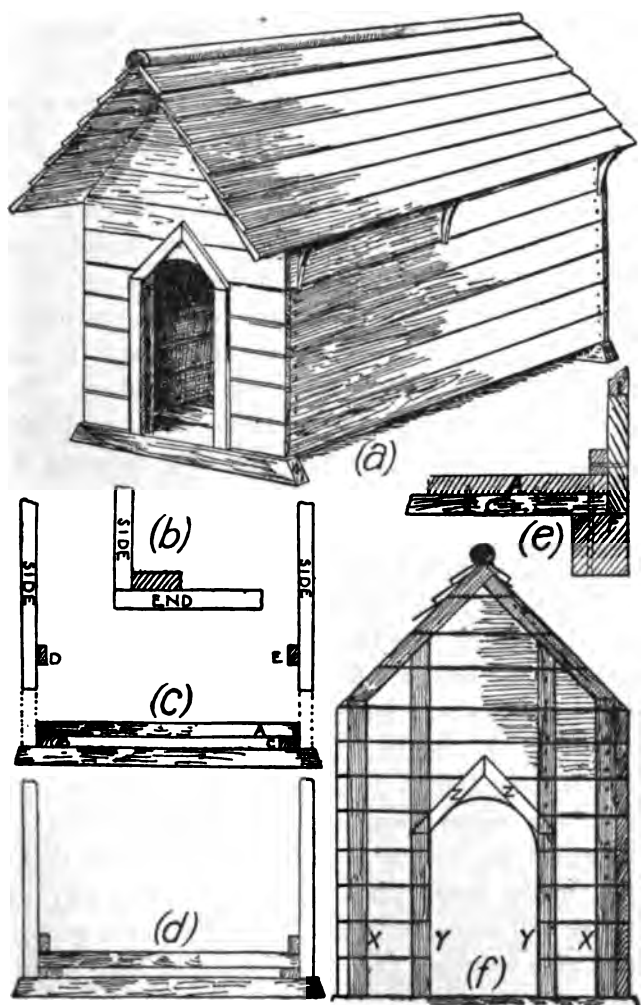

Fig. 45.—Design for sanitary dog-kennel.
Two very important points to be kept in mind when designing a dog-kennel are: (1) that the kennel shall be warm and absolutely waterproof; (2) that the construction shall permit the kennel to be easily cleaned out. The kennel shown in Fig. 45, *a*, and described below meets these conditions—the roof projecting to shed water clear of the lower woodwork, and the bottom being separate from the upper part of the structure.
The ends are made first by nailing lengths of matching across uprights of 2" × 1" batten, as shown in Fig. 45, *f*. At the top the battens are halved or tenoned into the two roof-pieces. The two outer uprights, X X, are set in about $\frac{1}{4}$ in. from the edges to allow the sides to be flush with the outside of the ends. These four uprights are inside. It is advisable to cut out the door—using a pad-saw for the semicircular top—before nailing on Y Y, which should be a little nearer to one another than are the rough edges of the door. Two short verticals on the outside, also projecting beyond the edges, prevent the dog injuring his coat on them; while the pieces, Z Z, give a neat finish.
When the ends are finished, the horizontal boards for the sides are nailed on to X X at each end (Fig. 45, *b*). Begin at the bottom, arranging the lowest board with tongue pointing upwards, and add the upper boards in order. The direction in which the tongue points is an important detail, for, if the boards are put on the other way up, water will more easily find its way into the grooves and give trouble. (This applies to the ends as well as to the sides.)
Battens D and E (Fig. 45, *c*) are nailed inside
along the sides, and a third across the back, at a distance above the bottom edge equal to the thickness of the bottom boards and of the battens B and C, to which they are attached. Fig. 45, *c*, shows the kennel raised off the bottom; Fig. 45, *d*, the parts in contact; Fig. 45, *e*, a longitudinal vertical section of the back end. At each end a 2" x 2" deal, F, is screwed to B and C to raise the bottom clear of the ground.
The roof weather boards must be long enough to project at least six inches beyond the door end, to prevent rain which falls fairly vertically driving in through the entrance. The eaves overhang three inches, and are supported, as shown in Fig. 45, *a*, by three brackets cut out of hard wood. Begin laying on the boards at the eaves and finish at the ridge, which is closed with a wooden beading or a 6-in. strip of sheet zinc, or zinc outside a beading.